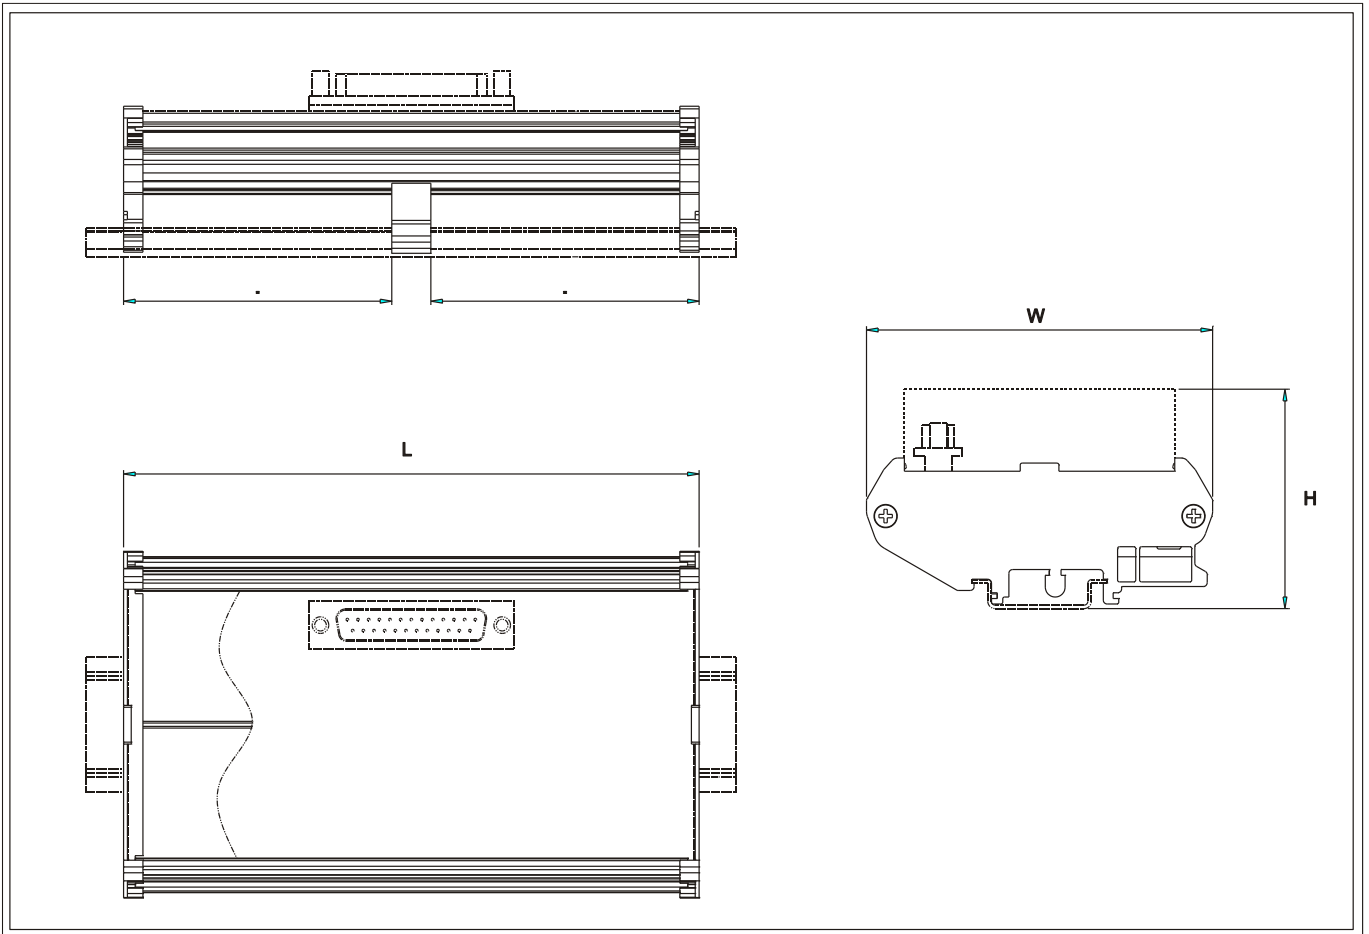

Figure 40 – Dimensional Drawings
* For more details see Figure 40.